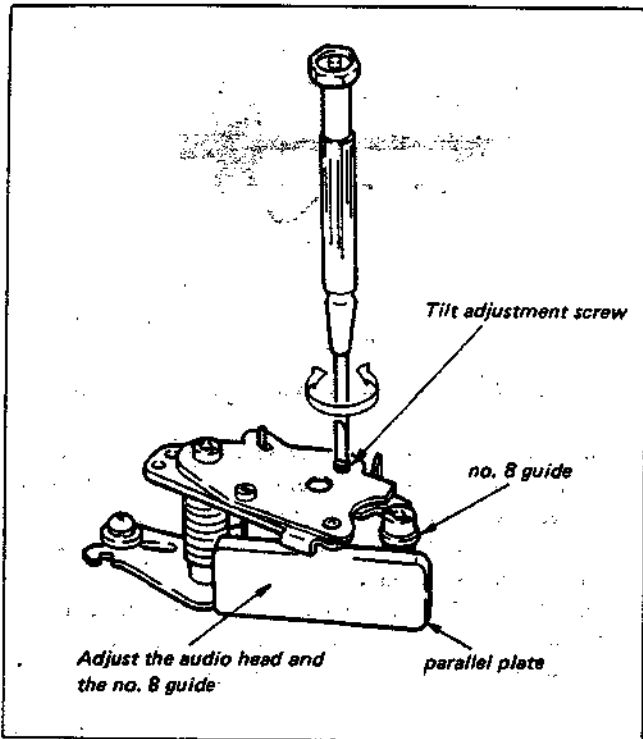

Fig. 4-9.
- 1) Set the parallel plate (SL-0657 in the list of fixtures and tools) up against the unit as shown in Fig. 4-9, and turn the tilt adjustment screw to adjust the audio head vertically.